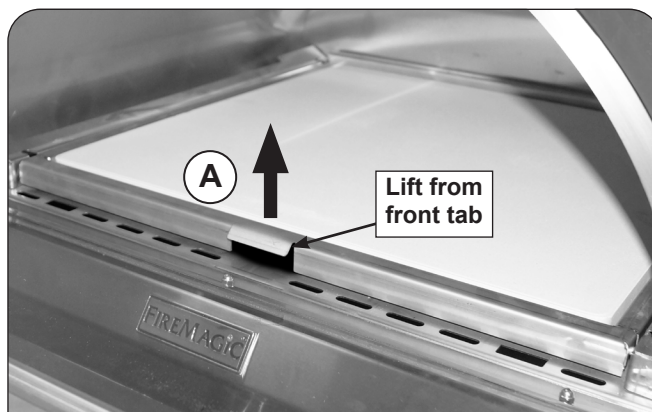

Fig. 36-2 Stone/frame removal
2. Grasp the center front tab of the pizza stone support frame and carefully lift upward to free the notches from the left and right side rail pegs (see Fig. 36-2, A).
4. Reposition your hands from the front tab to the sides of the frame. Lift the frame upward and out of the oven. See Fig. 36-2, B.